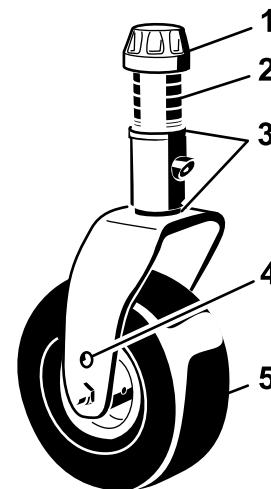

Figure 6
2. Position the caster wheel axles in the same holes in both caster forks. Refer to Figure 6 to determine the correct holes for the setting.
3. Remove the tensioning cap from the spindle shaft (Figure 6) and slide the spindle out of the caster arm. Put the 2 shims (3 mm or 1/8 inch) onto the spindle shaft as they were originally installed. These shims are required to achieve a level across the entire width of the cutting